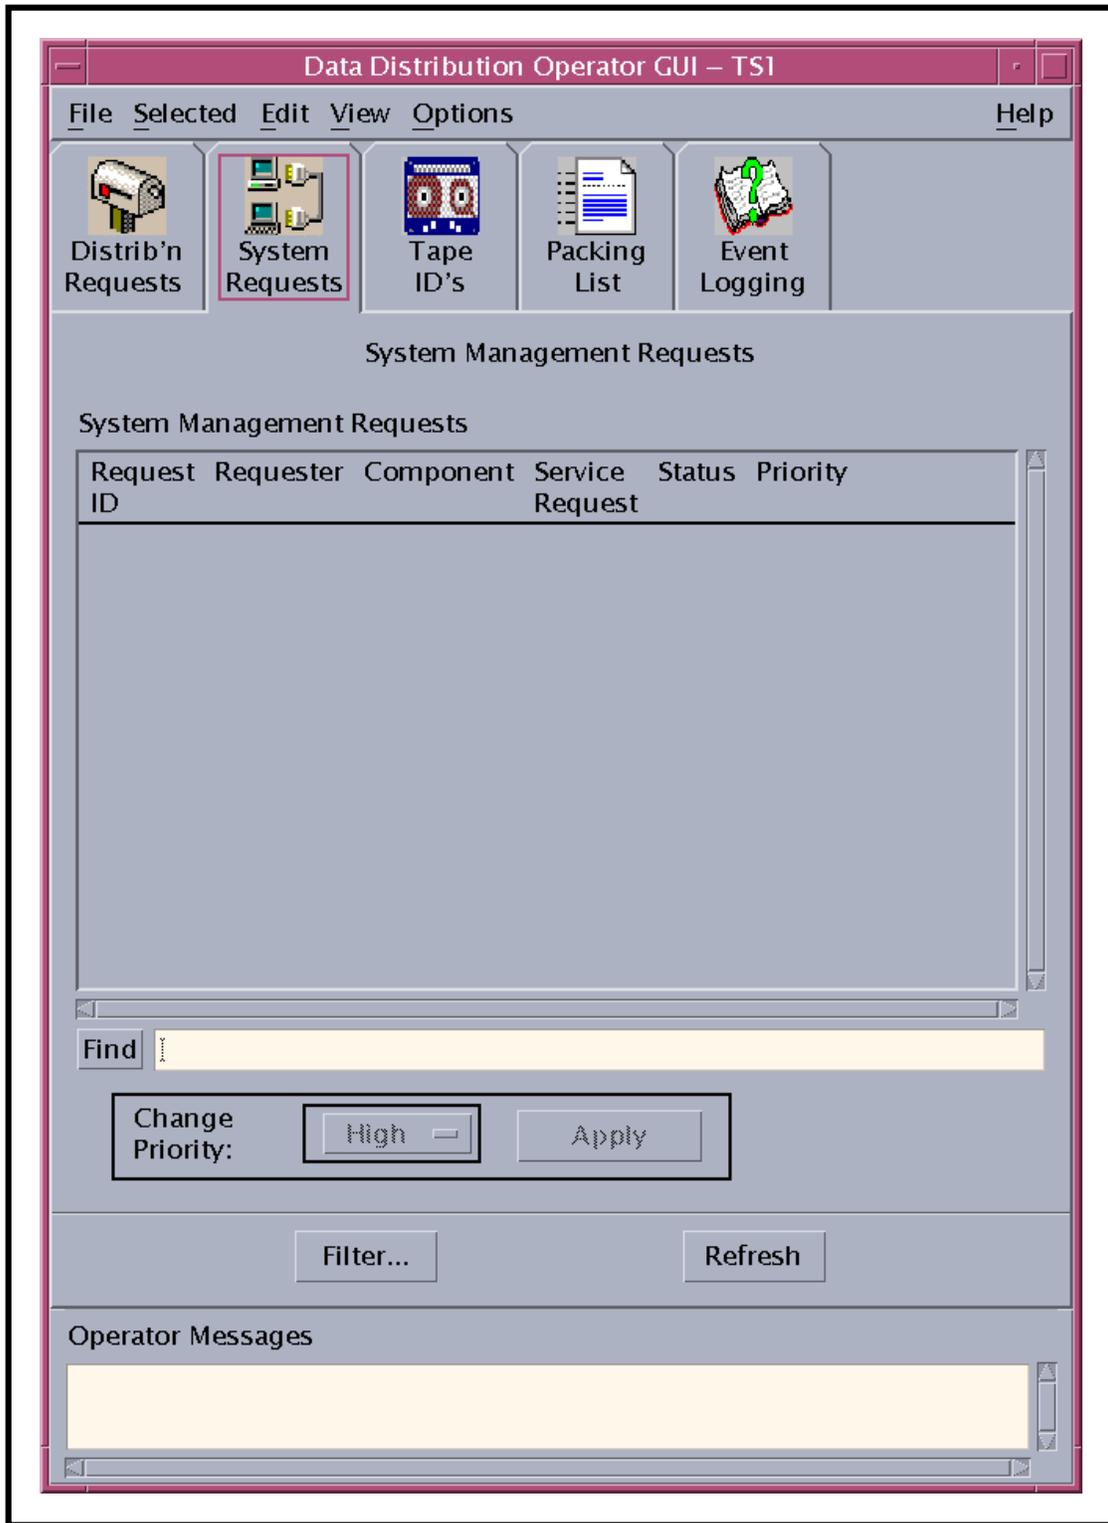

Figure 9. System Requests Tab (Data Distribution Operator GUI)
The functions associated with the **System Requests** tab (Figure 9) have not been included in Release 5A of the software. However, in the future the **System Requests** tab may provide the Ingest/Distribution Technician with the ability to view some of the same information concerning distribution requests that is displayed on the **Distrib'n Requests** tab (Figure 5). Fewer details would be presented in the **System Management Requests** window of the **System Requests** tab than are shown on the **Distrib'n Requests** tab. Specifically, the following information concerning each request would probably be displayed on the **System Requests** tab:
- The **System Requests** tab (Figure 9) is displayed.
The system requests to be displayed in the **System Management Requests** list (**System Requests** tab, Figure 9) would be filtered using the **System Management Filter Requests** dialog box. The filtering could be done on the basis of the following criteria, either individually or in combination:
- The **System Management Requests** window (Figure 9) reappears; only requests that meet the specified filter criteria appear in the list.
- The previously available **System Management Requests** list is shown in the **System Management Requests** window (Figure 9).